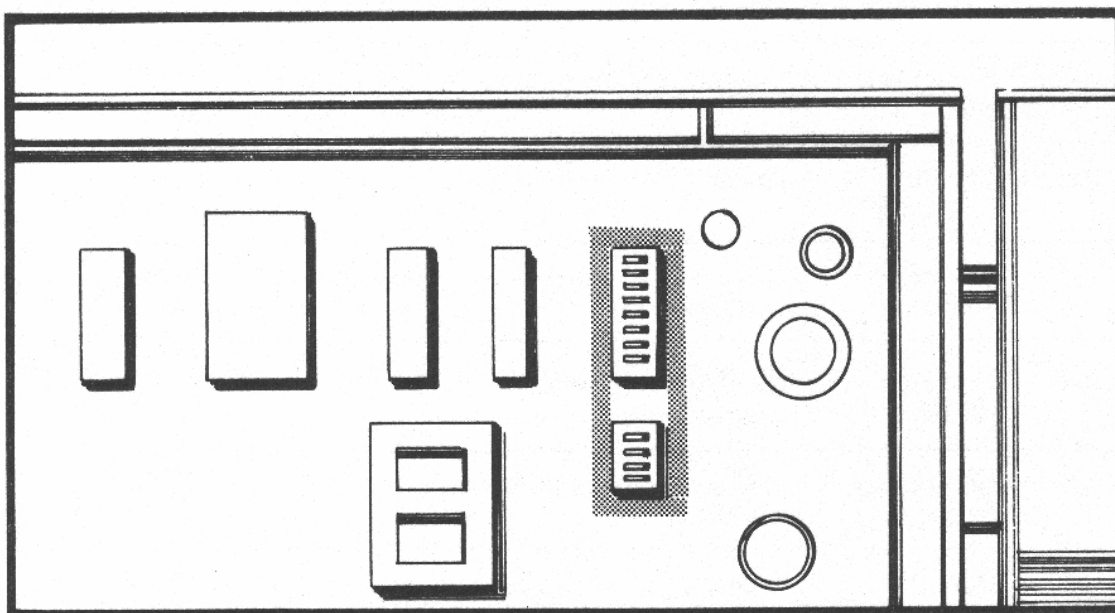

FIGURE 13.4. Locating the DIP switches
- Step 10.** Find the DIP switches inside the printer. Figure 13.4 indicates the location of the switches.